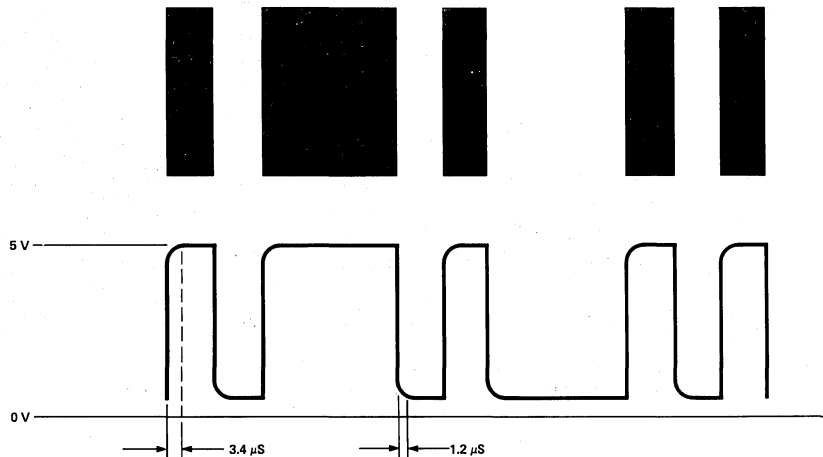

Figure 1. Typical Output Waveform
A non-reflecting black bar results in a logic high (1) level output, while a reflecting white space will cause a logic low (0) level output (see Figure 1). The initial state will be indeterminate. However, if no bar code is scanned, after a short period (typically less than 1 second), the wand will assume a logic low state. This feature insures that the first bar will not be missed in a normal scan.
- See Figure 1.